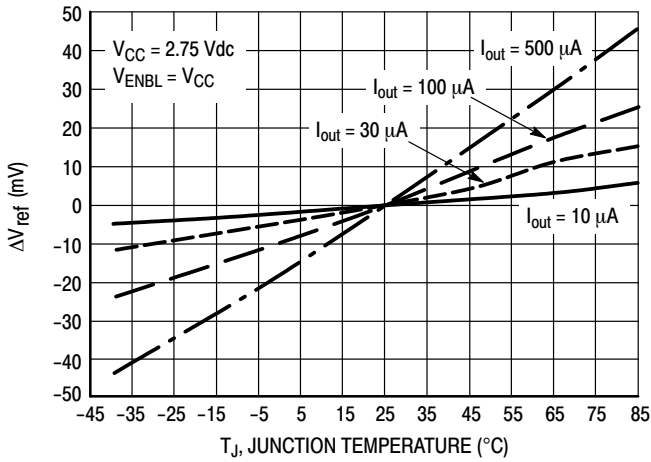

Figure 2. ΔV_{ref} versus T_J @ I_{out}
| Reference Voltage ($V_{ENBL} = V_{CC} = 2.75\text{ V}$, $V_{out} = 0.7\text{ V}$, $-40^\circ\text{C} \leq T_A \leq +85^\circ\text{C}$) V_{CC} Pulse Width = 10 mS, Duty Cycle = 1% ($I_{out} = 10\ \mu\text{A}$) ($I_{out} = 30\ \mu\text{A}$) ($I_{out} = 100\ \mu\text{A}$) See Figures 2 and 11 | ΔV_{ref} | | ± 5.0 ± 15 ± 25 | ± 10 ± 30 ± 50 | mV |
- Step 4: Choose I_{out} keeping in mind that too large an I_{out} can impair MDC5000 $\Delta V_{ref}/\Delta T_J$ performance (Figure 2) but too large an R_6 can cause I_{DGO} & I_{GSO} to bias on the FET.